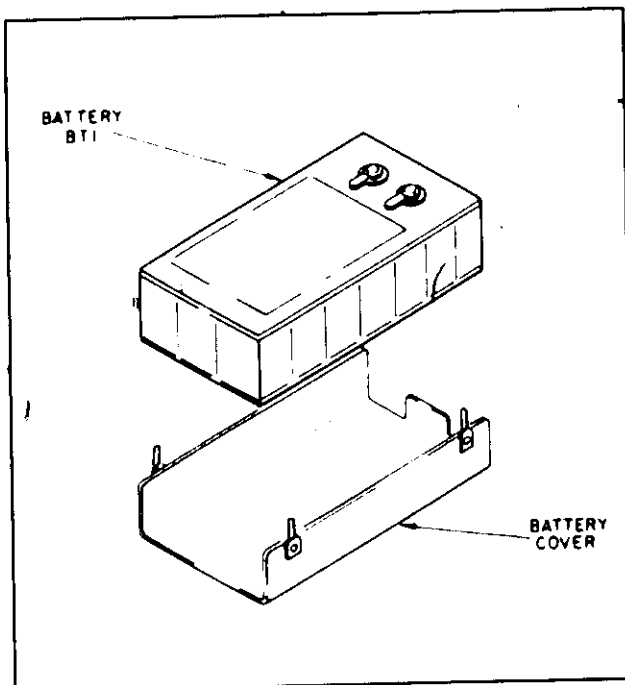

Figure I-1 Battery Cover Assembly
- c. Refer to Figure I-1 which shows the cover and battery disassembled and install from bottom of instrument into the top deck.